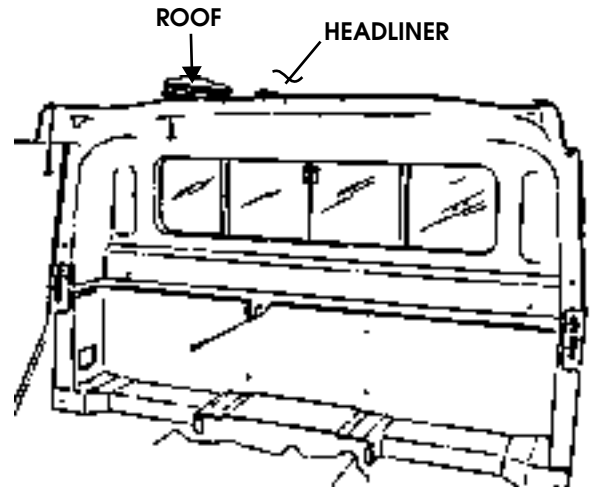

Figure 10-44: Headliner Positioning
- Remove panel fasteners and headliner from roof (Figure 10-44).
- Position headliner on roof and install with panel fasteners (Figure 10-44).